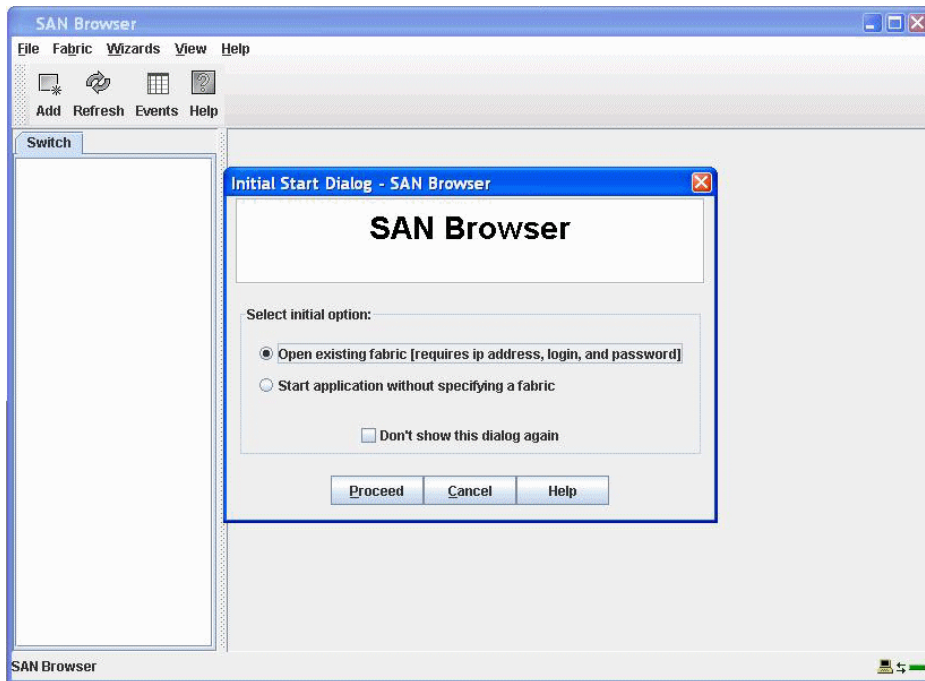

Figure 9-13 SAN browser window
1. To begin, enter the IP address of the QLogic Fibre Channel Switch Module for IBM BladeCenter into your Internet Explorer Web browser. You will see the Java Plug-in Version Check and after several seconds a window similar to Figure 9-13.